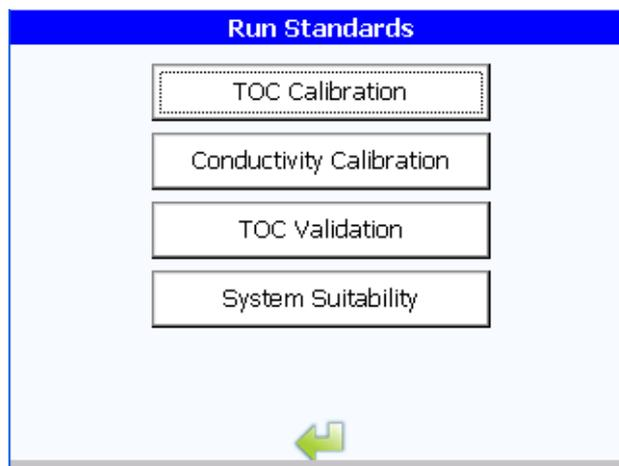

Figure 6-2 Run standards dialog box
The run standards dialog box allows you to select a standards test to run. See Figure 6-2.
- 4) Touch the TOC calibration button in the run standards dialog box. See Figure 6-2, page 87.